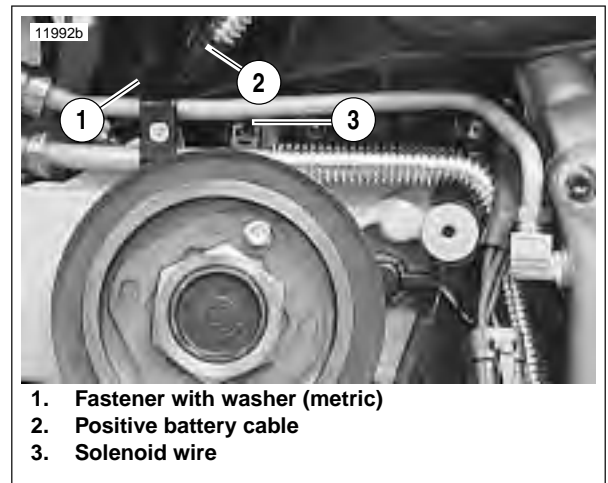

Figure 5-25. Starter Wires
2. See Figure 5-25. Connect wiring to starter.
- a. Connect solenoid wire (3).
- b. Attach positive battery cable (2) ring terminal to stud with fastener and washer.
- c. Install nut and washer (1) (metric). Tighten nut to 60-85 **in-lbs** (7-10 Nm).